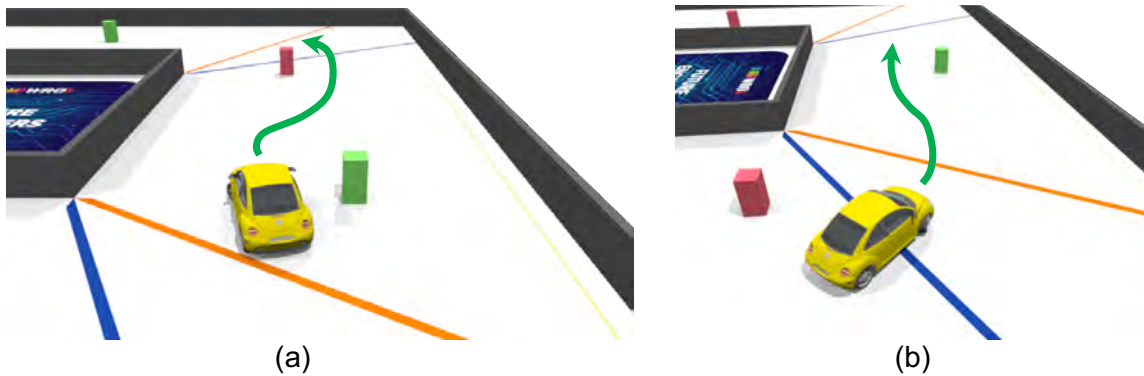

Figure 14. The rules to pass the traffic signs
- 9.18. The vehicle must pass the traffic sign represented by the red pillar on the right (the picture (a) on figure 14) and the traffic sign represented by the green pillar on the left (the picture (b) on figure 14).